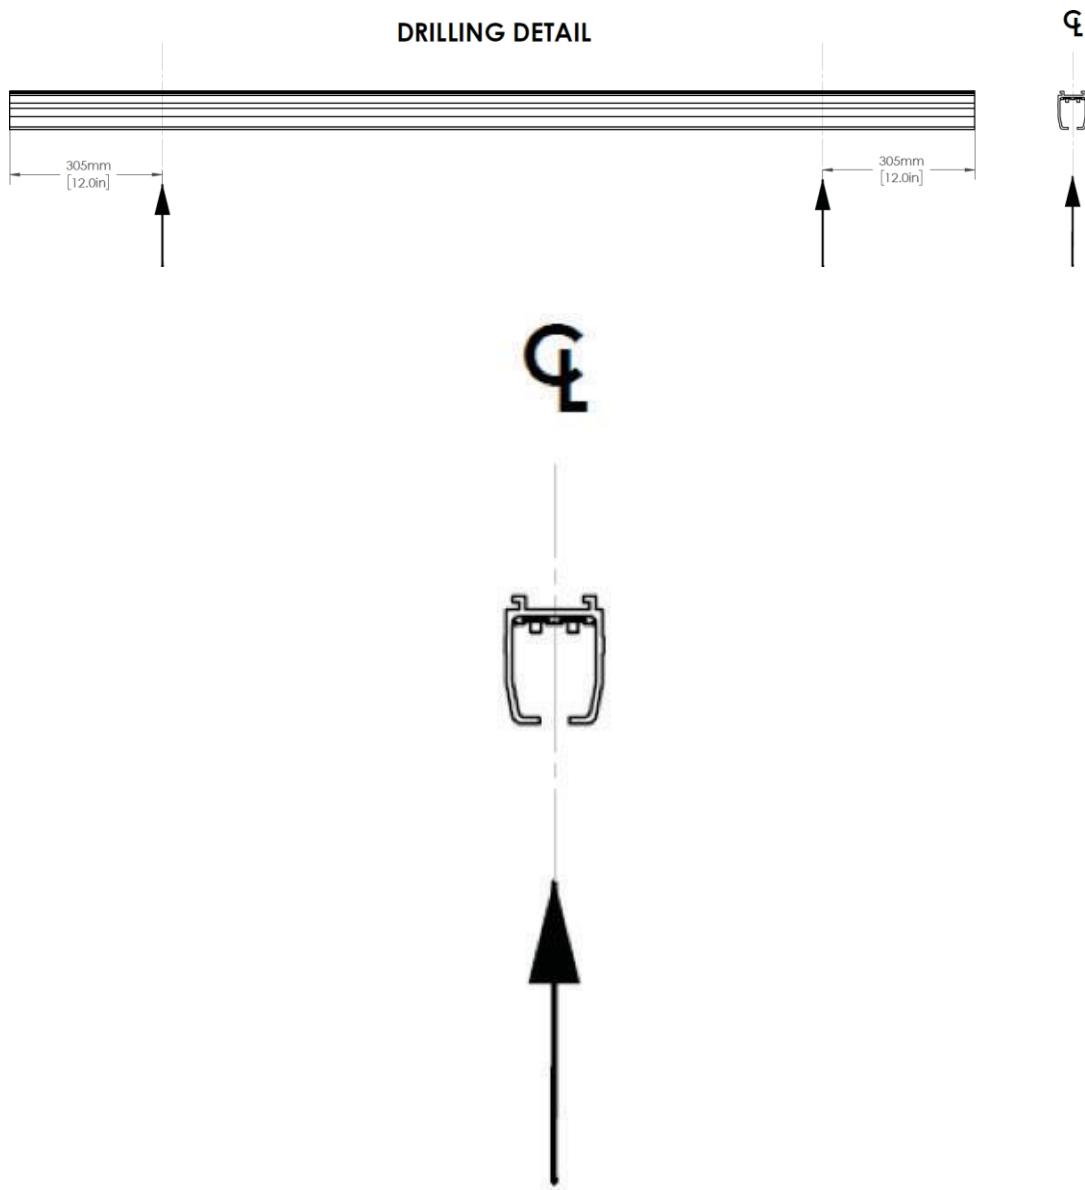

Figure 36: *Drilling Detail*
- As shown in Figure 36, drill from the bottom up, through the channel, to ensure to drill between the metal segments of the TransStrip.